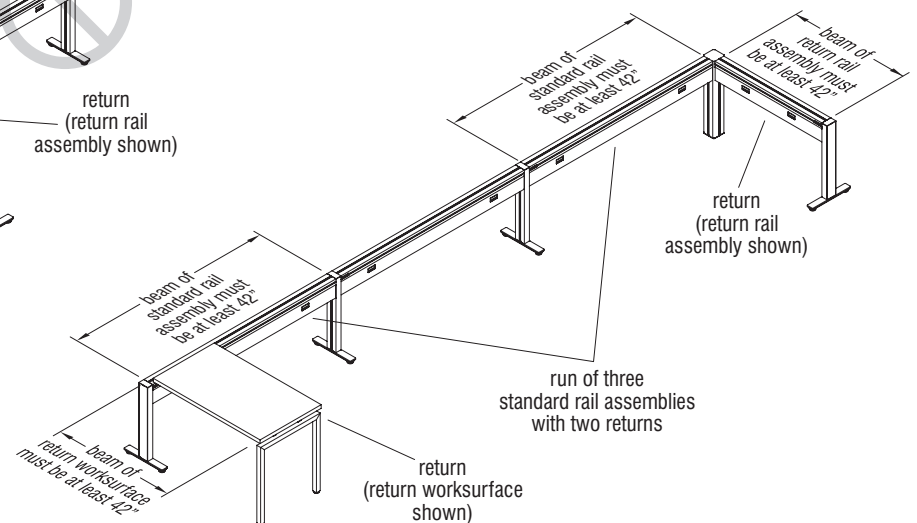

Figure 23
- Three is the maximum number of in-line standard rail assemblies which can be configured in a row before another return worksurface or return rail assembly must be added (Figure 23).
- The return worksurface or beam of the return rail assembly must be at least 42" in length (Figure 23).
- To attach a return worksurface or return rail assembly, the beam of the standard rail assembly must be at least 42" in length (Figure 23).